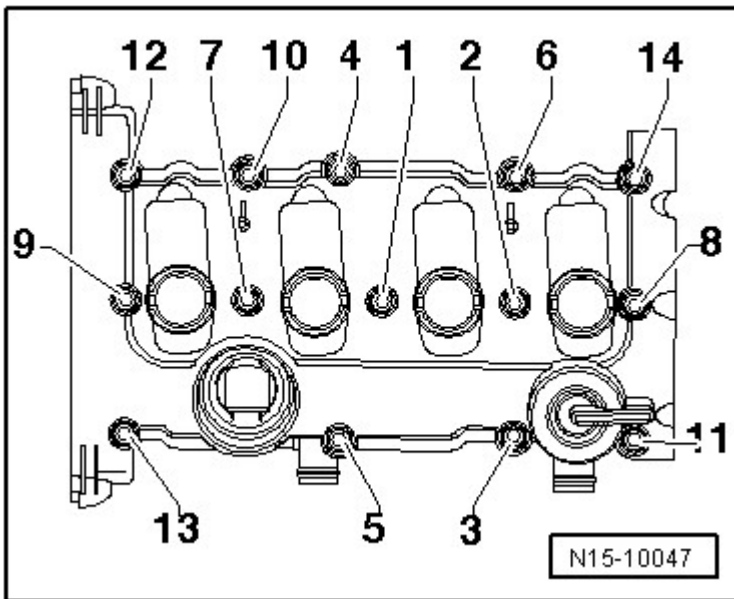

Fig. 10: Identifying Cylinder Head Cover Bolts Tightening Sequence
- Tightening sequence, refer to **Fig. 10**